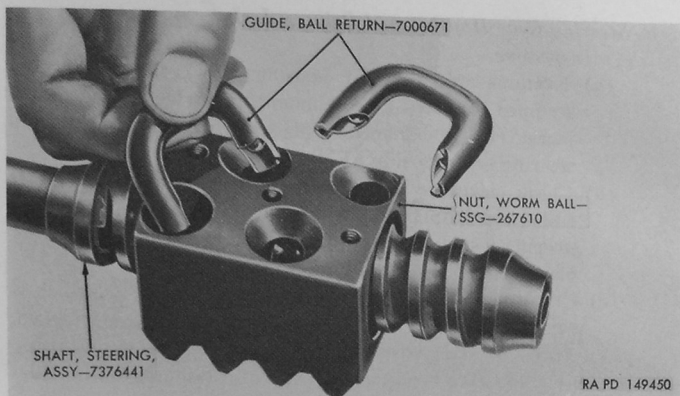

Figure 190. Removing or installing ball return guides.
h. Carefully withdraw steering shaft assembly (T) and worm ball nut (Y) as an assembly from housing and column jacket.
i. To disassemble ball nut, remove three  $\frac{1}{4}$ -28 x  $\frac{5}{16}$  screws (U) which attach ball return guide clamp (V) to worm ball nut (Y). Remove clamp. Pull ball return guides (W) out of ball nut in manner shown in figure 190. Turn ball nut upside down, and rotate shaft back and forth until all  $\frac{3}{32}$ -inch worm balls (X) have dropped out of ball nut into a clean pan. With the balls removed, pull ball nut endwise from shaft worm.